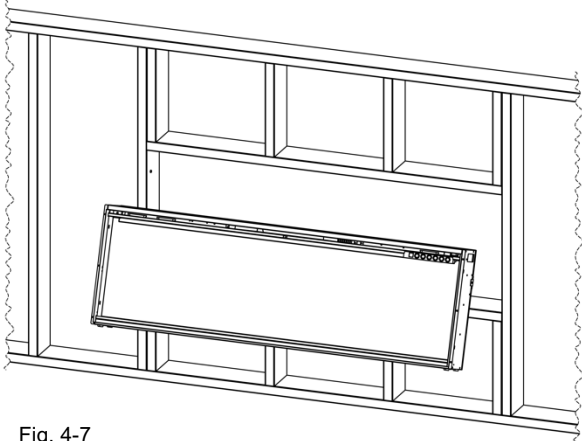
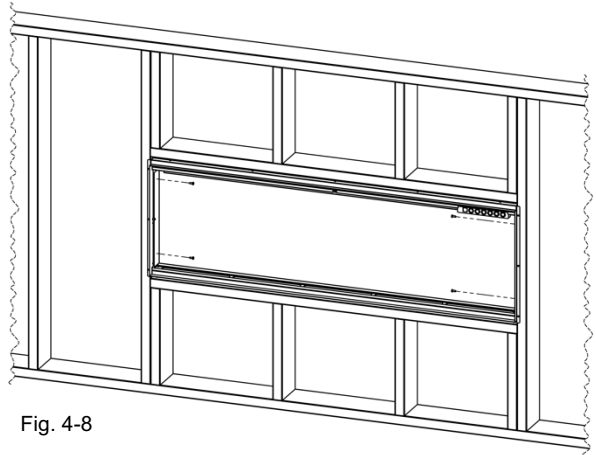

Fig. 4-7
Fig. 4-8
- Insert the appliance in the opening (Fig. 4-7) and then secure it by installing 4 screws (supplied) into the slots on the inside of the fireplace (Fig. 4-8)